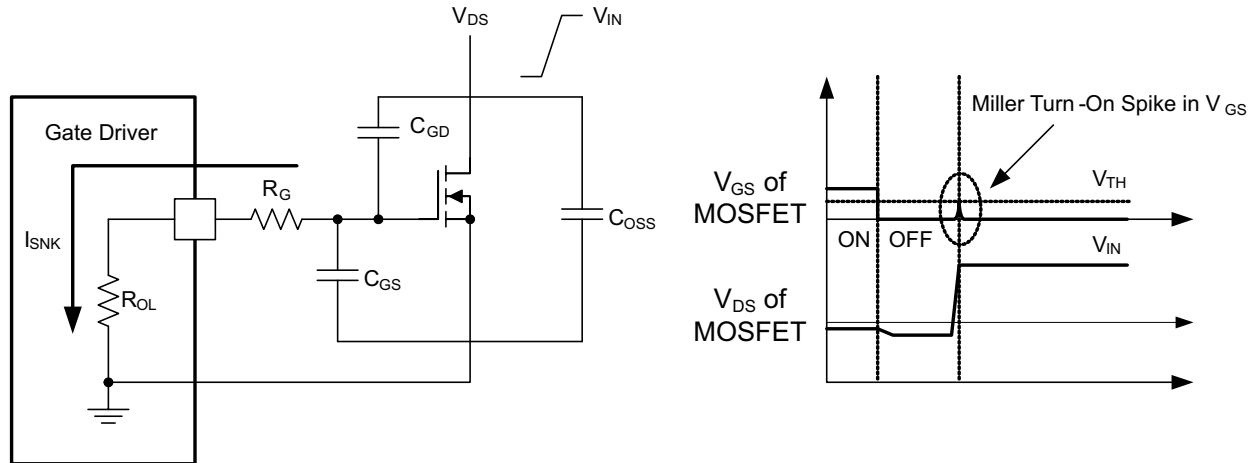

图 7-3. Low Pulldown Impedance in the UCC27532-Q1 Device (Output Stage Mitigates Miller Turnon Effect)
An example of a situation where Miller turnon is a concern is synchronous rectification (SR). In SR application, the dV/dt occurs on MOSFET drain when the MOSFET is already held in the off state by the gate driver. The current charging the C_{GD} Miller capacitance during this high dV/dt is shunted by the pulldown stage of the driver. If the pulldown impedance is not low enough then a voltage spike can result in the V_{GS} of the MOSFET, which can result in spurious turnon. This phenomenon is illustrated in 图 7-3.